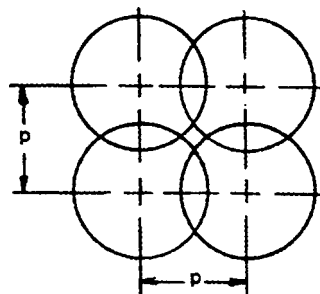

Figure 2. Compaction Coverage with 50% Radial Overlap
5. See Compaction Coverage Chart, (Figure 2).